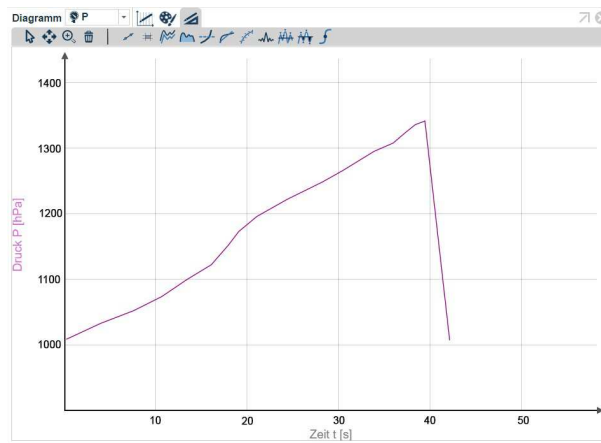

Fig. 7: Measurement result (cold)
- **Experiment 3b:** After an approximately 5-minute-long heat treatment, the pressure inside the Erlenmeyer flask remains constant (Fig. 7).
- **Experiment 2b:** When hydrochloric acid is added, the pressure curve does not rise at all (Fig. 7).